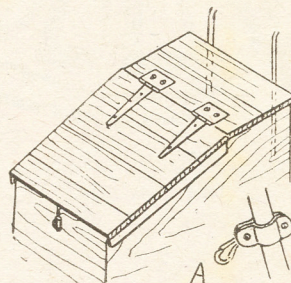

Fig. 3—Details of top and fixing
The remainder of the top covering forms the lid. Join the boards together with side strips of  $\frac{3}{4}$ in. by 1in. wood, as seen at Fig. 3, and glue and nail the whole securely. Fix the lid to open up with a pair of iron T hinges, as shown, and to the front of the lid fix a hasp to accommodate a padlock fastener.
loop, and be bent and screwed to the fore-end of the trailer, as in the general view of the completed article. A simple form of attachment, to be fitted to the seat pillar of the bicycle, is shown at (A) in Fig. 3. To this is secured a large size dog-hook, which can engage the loop on the towing bar and form a safe connection. Do make sure it is quite safe with no chance of slipping.